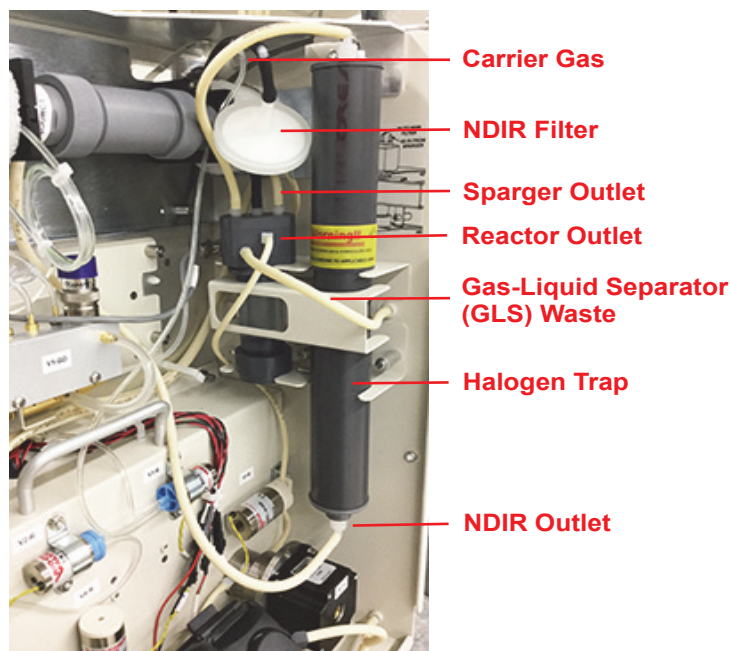

Figure 72: Connections to the Gas-Liquid Separator
- Confirm that the Gas-Liquid Separator contains liquid to the proper level (Figure 72) and that all tubes are properly connected.